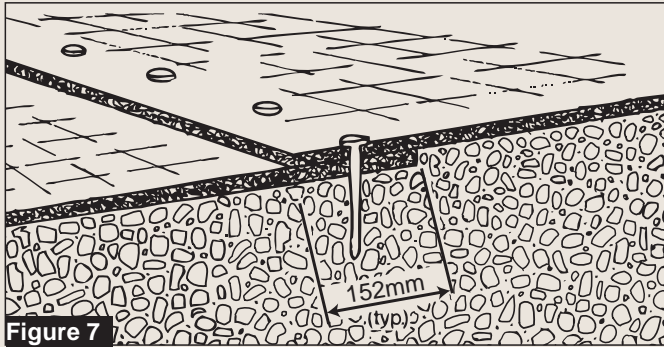

Figure 7
- Roll edge: 150 mm minimum with upslope mat on top. Secure with one row of ground anchoring devices on 300 mm minimum intervals (see Figure 7).